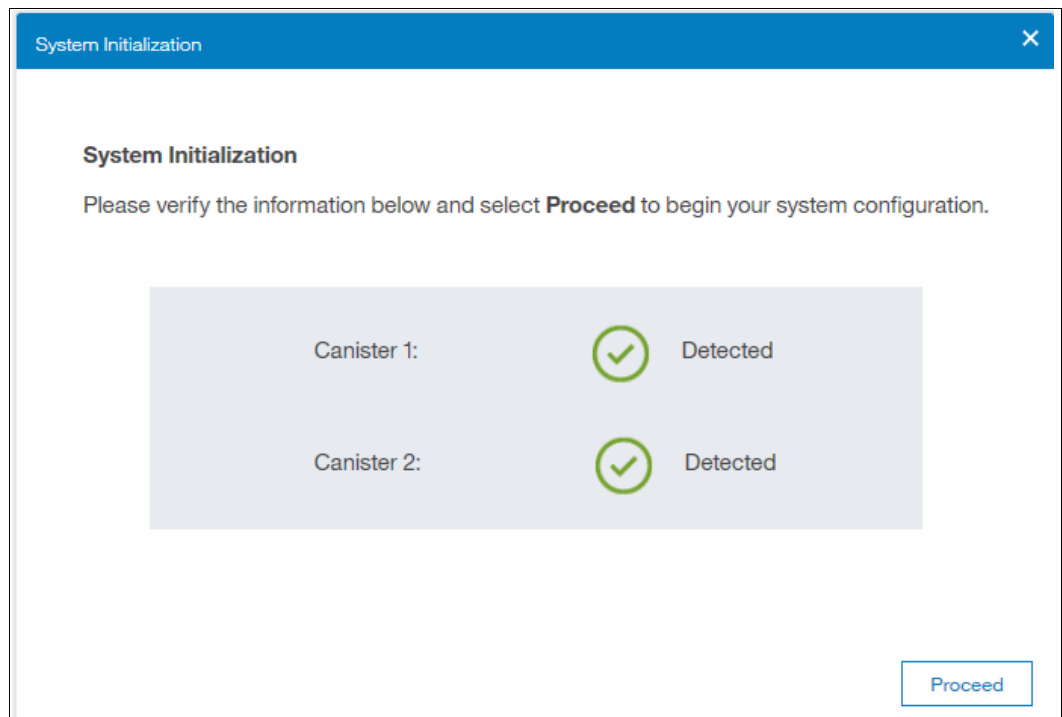

Figure 6-46 System initialization pane
4. Wait for the System Initialization pane to be displayed (Figure 6-46).